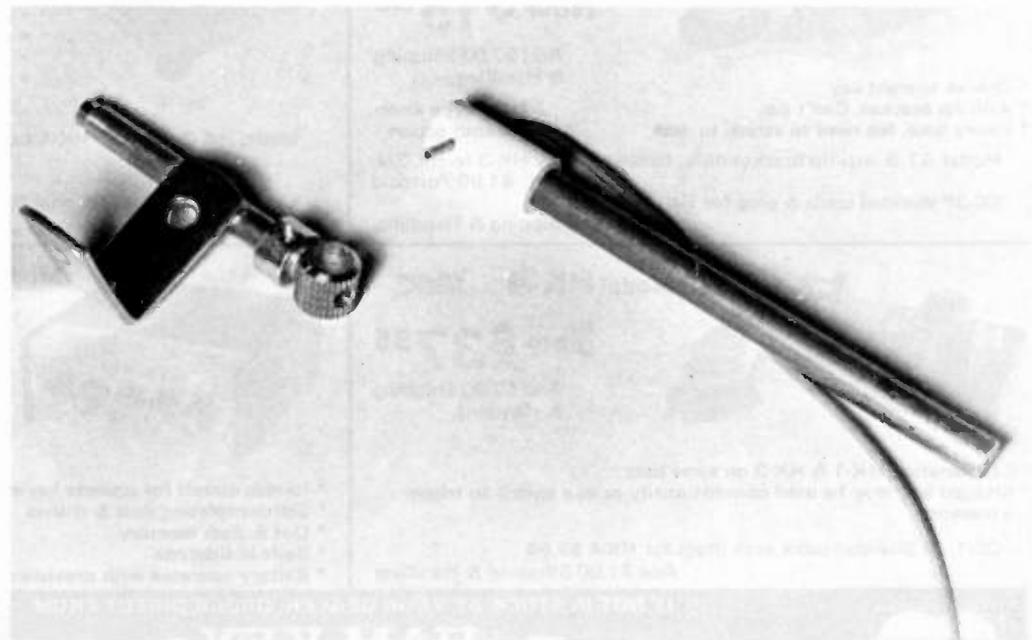

Fig. 6. Stylus pivot and stylus arm assemblies. The stylus support bracket and pivot assembly are shown to the left, while the stylus arm is on the right.
The second brass knob insert, which you had set aside earlier, is soldered to the long piece of tubing (C) which serves as the axle of the support structure for the stylus arm. The bearing for the support of this axle (B) is soldered at the top of the vertical extension of the brass angle bracket. An aluminum "wheel collar," available from the same hobby shop where you get the tubing, serves as a stop at the brass insert end of the shaft, while a small piece of tubing (F) is slipped over the shaft and soldered at the outside end to provide the second stop. The tubing pieces should be deburred and the ends filed true prior to assembly. When completed, the inserted knob should rotate very freely but with no excess play in any other axis. Fig. 6 shows the assembled stylus parts to give you some idea how they look when assembled.